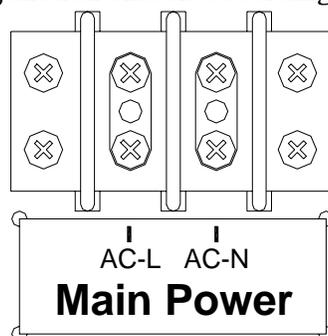

Figure 7 Power Connections
3. Connect the AC line wire and AC neutral wire to the **Main Power** terminal block on the junction chassis according to figure 7.